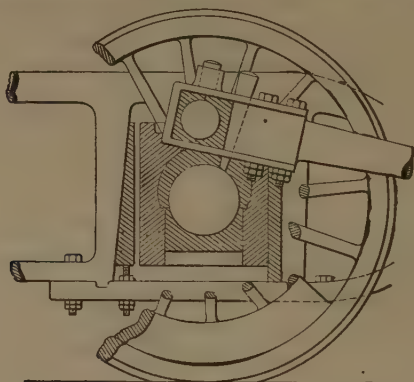

Fig. 267. Crank Pin and Driving Axle.
A. (1) Set tank brake as a precaution; place on the back center the crank pins of the side you wish to adjust; put reverse lever in or near center notch. You will then have a lead opening in the back steam port of the side on which you are working, while on the opposite side the ports will be covered. Open throttle, and the driving boxes will be drawn against the dead wedges. Loosen set screws in side of jaws and nuts under binder brace, and wedges may be easily pried up with a short steel bar. Run the nuts on top of binders
down with the fingers, then tighten the nuts under binder, and the side is finished. Place the crank pins of the opposite side on back center, and proceed in the same way. (2) With the engine near the top quarter on the right side, lever front, driver brake cut out, tender brake set or drivers blocked, throttle partly open, so that the steam will pull the crank pin ahead a bit as in Fig. 267. Pull the driver box against the shoe